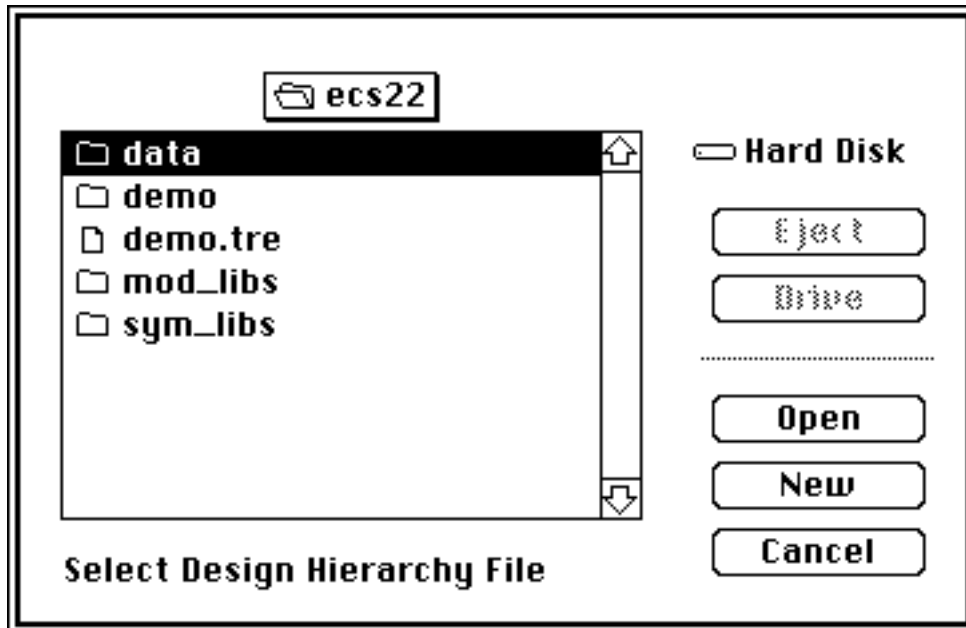

Figure 4-27 File Open List Box in Hierarchy Navigator
1. Double-click on the Hierarchy Navigator application. A file open list box appears as shown in Figure 4-27, allowing you to select a design to open. The files in the list box default to *.tre* files when the application is first started.